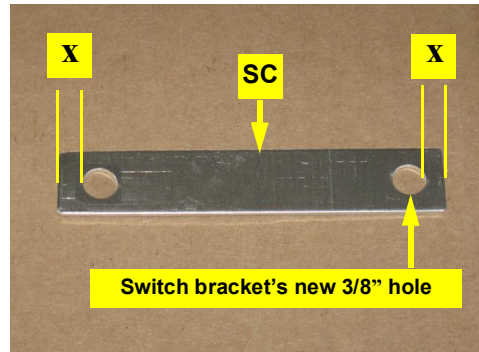

Figure 1b: Newly drilled switch bracket
- b. Drill a 3/8" hole in the switch bracket **SC** at the opposite end from the existing switch hole (the same distance (x) from the end of the bracket as the existing hole is from its end - Figure 1b). Install sensor **SD** in the new hole.